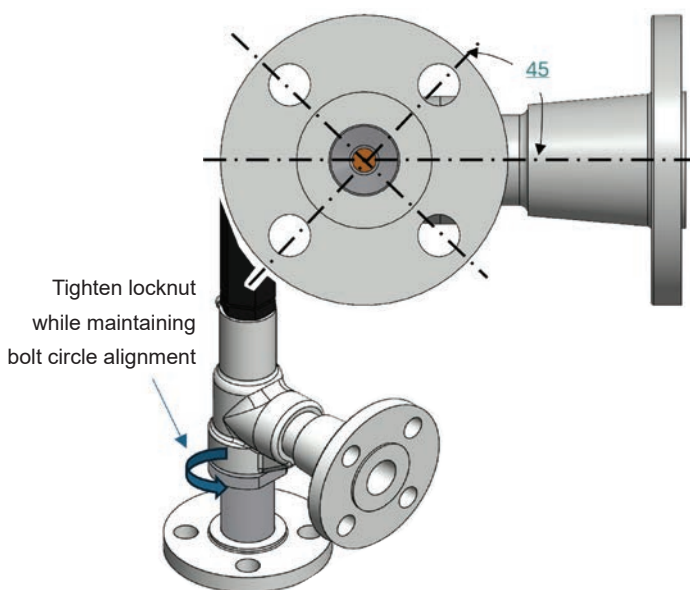

Figure 18 - Clocking of Socketweld Locknut Flange
4. Lubricate the spindle nose with a small amount of non-copper based thread lubricant and insert the spindle (9) into the disc holder (4) spindle pocket.
5. Apply a small amount of non-copper based thread lubricant on the bearing surface of the lower spring washer (10) and slip it over the spindle (9). Install the spring (11) and upper spring washer (10).
6. Apply a small amount of non-copper based thread lubricant to the locknut (1A) threads. When a stainless steel bonnet (6) and base (1) are used, and/or a standard bonnet for service above 500°F temperature, apply non-copper based thread lubricant to the locknut threads. Before tightening the bonnet (6) completely, adjust the position of the guide so that one of the holes is lined up with the discharge of the valve.
7. While holding spindle assembly in place, lower bonnet (6) onto base (1) and screw the locknut (1A). Maintain the clocking of the inlet flange with respect to the bonnet centerline as shown in Figure 18 on page 36. Tighten the locknut (1A) to the bonnet (6) using sufficient torque from Locknut Torque Specification (see Table 12 on page 41). If there is joint leakage, the recommended torque may be exceeded, but do not exceed the maximum torque shown.